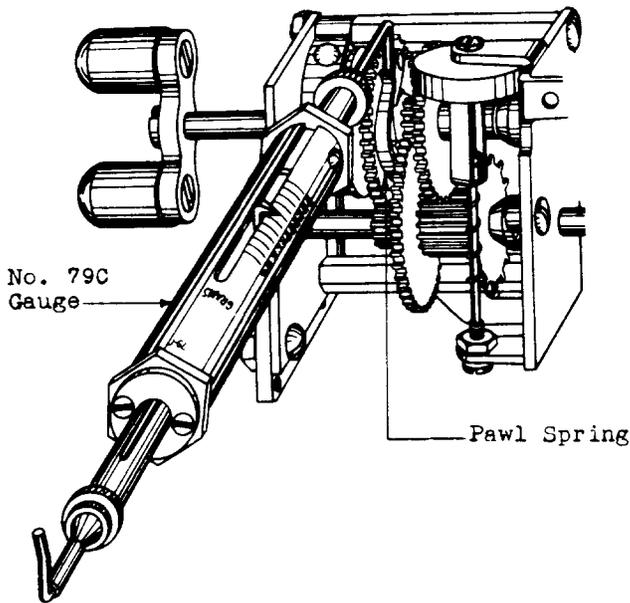

Fig. 10 - Method of Checking
- (1) To check the tension of the pawl spring apply the No. 79C gauge to the end of the spring as shown in Fig. 10 and note that the tension registered on the gauge is not less than 70 grams.